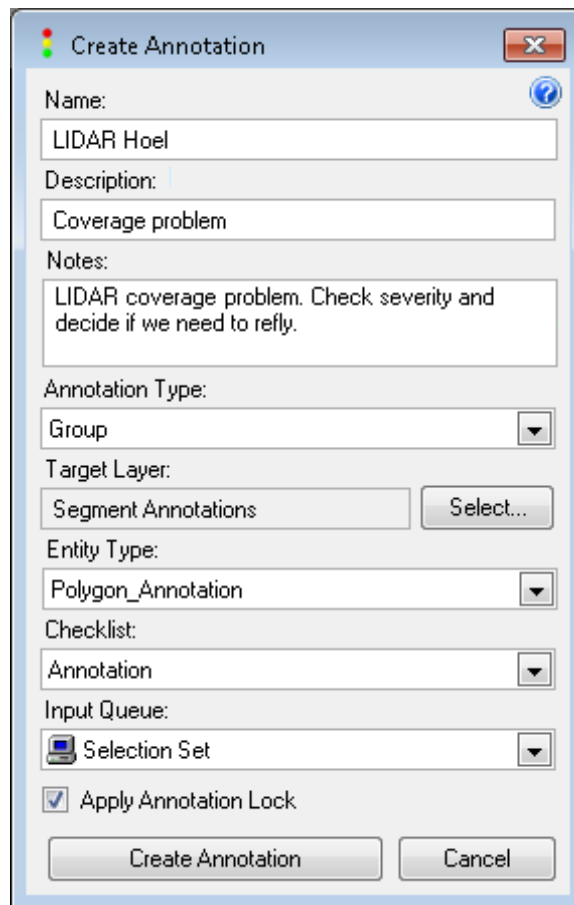

Figure 22-5 The annotation values for the "LIDAR Hole"
- Populate the dialog as shown in Figure 22-5 (the note “LIDAR coverage problem. Check severity and decide if we need to refly.” pertains to the resolution of the LIDAR strip gap). Notice that we are using the Annotation layer that was created in the previous example. This is not required – you could create a new layer if you wanted to sort different types of annotations by layer. However, it must be a polygonal annotation